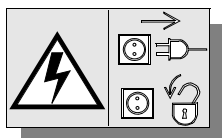

Fig. 26: Heating installation ARI-PREMIO®-Plus 2G 2,2 - 25 kN
- Using the supplied screws, mount complete heating (on holding bracket) at the point on the gearbox cover plate provided for the purpose. (Fig. 26).